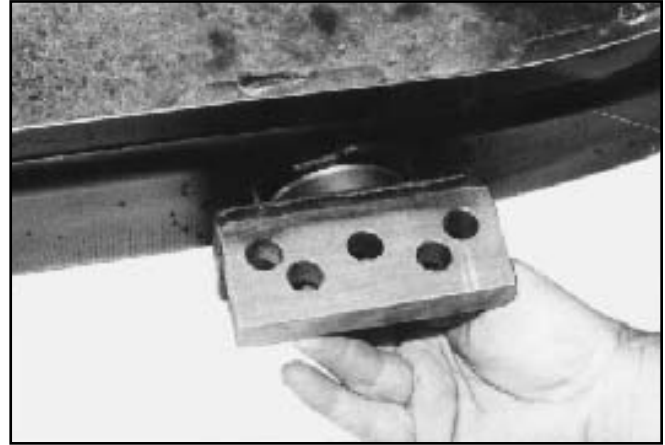

Figure 4
5. Slide Corvette hold down bracket onto threaded end of oval hold down attachment. Secure the assembly using 1/2-13 NC nut and 1/2-A325 ZP washer. Horizontal plate of hold down bracket must be flush with bottom of oval insert. (See Figure 4.)
1. Vertical plate of hold down bracket must face outward as shown in Figure 4.